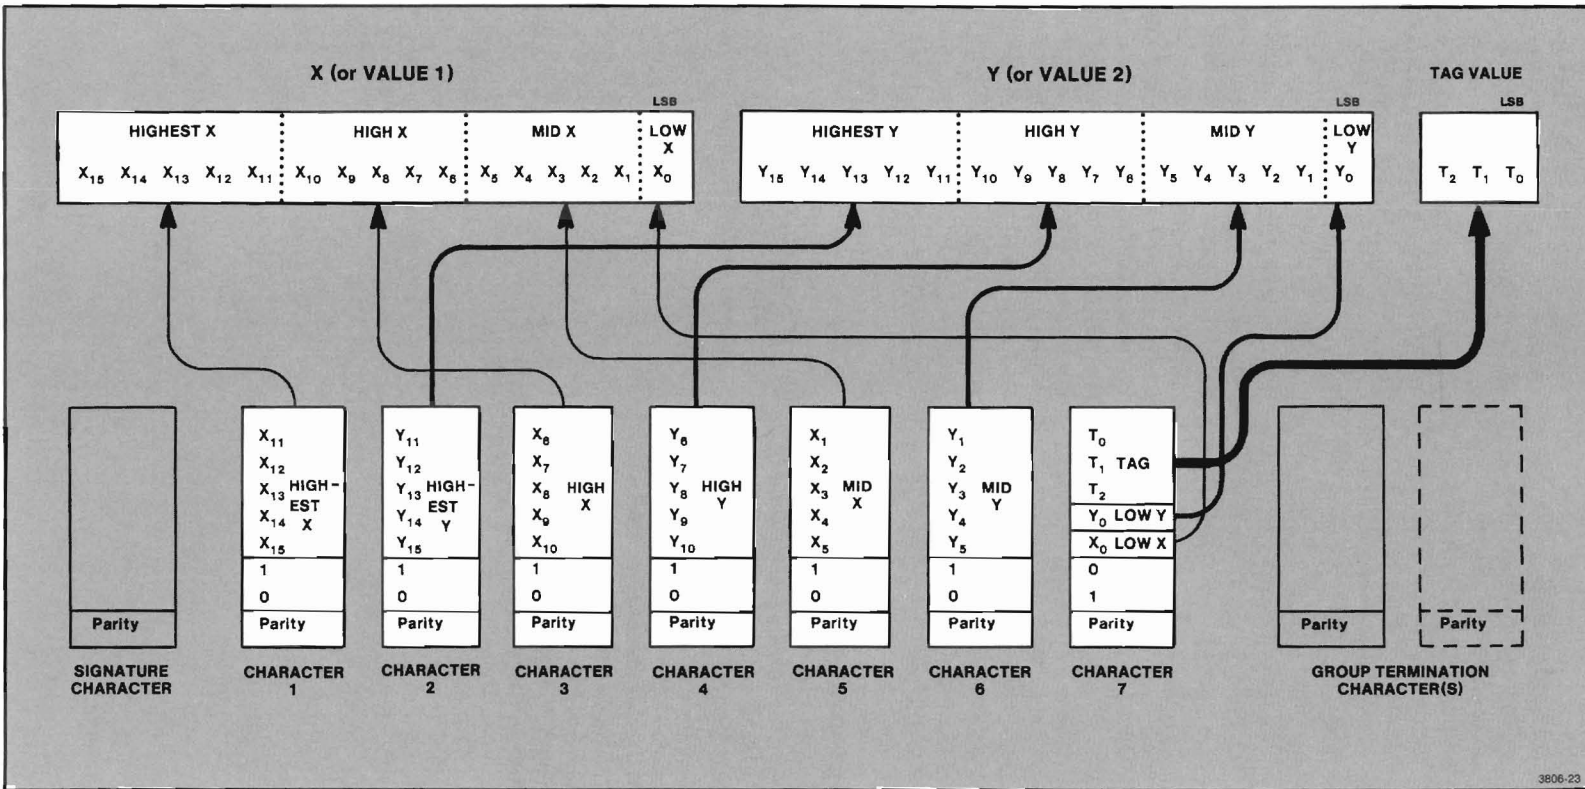

Figure 4-17. Packed Binary Response Block Format.
**Format 1 — Unlabeled Binary Output.** The packed-binary format consists of seven consecutive ASCII characters. These are encoded as shown in Figure 4-17 from two 16-bit numbers and three bits of TAG information. The coding (defined more formally in Figure 4-18) uses only the ASCII characters "Space" to "Underline" (ADE 32 to ADE 95) to permit return of responses to the host even if the host computer's input character set is restricted (such as when lowercase characters are not accepted).